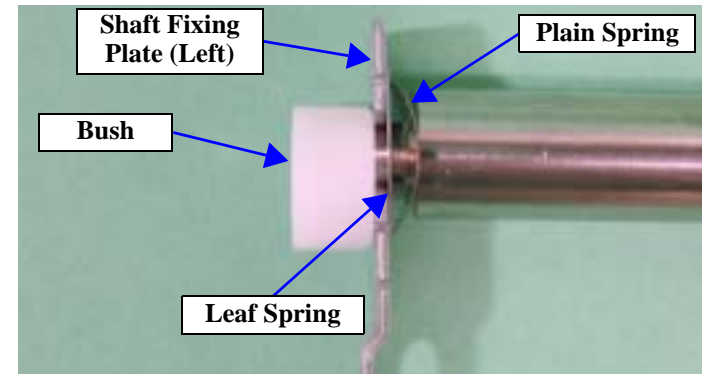

Figure 4-81. Order on Left End of Carriage Guide Shaft A
■ Make sure that the left end of the Carriage Guide Shaft A is in order of the Bush, Shaft Fixing Plate (Left), Plain Spring and Leaf Spring. Refer to Figure 4-81, "Order on Left End of Carriage Guide Shaft A".